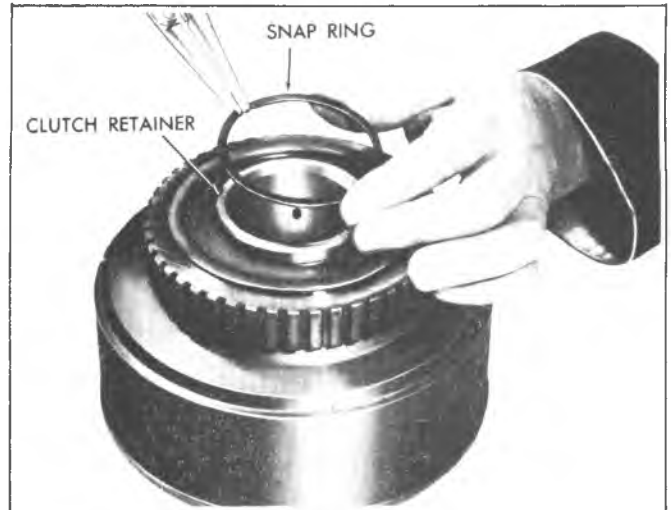

Fig. 7A-110C--Installing Intermediate Clutch Retainer Snap Ring
13. Install intermediate clutch retainer and snap ring (Fig. 7A-109C and 7A-110C).